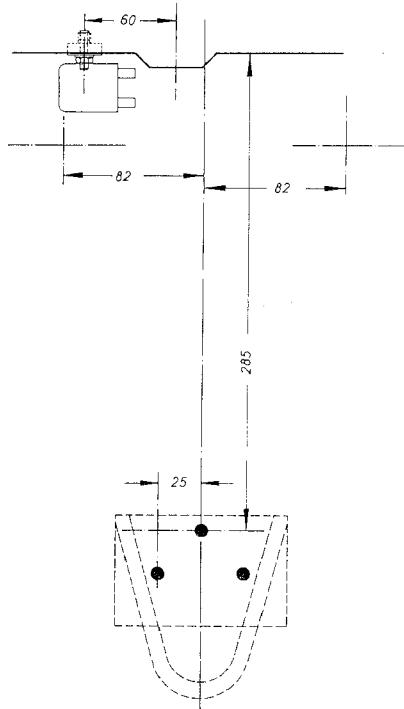

Fig. 8
- Mark fixing points for rubber-metal bearings for fresh-air blower (see Fig. 8) and bore with a 6.5 mm bore.